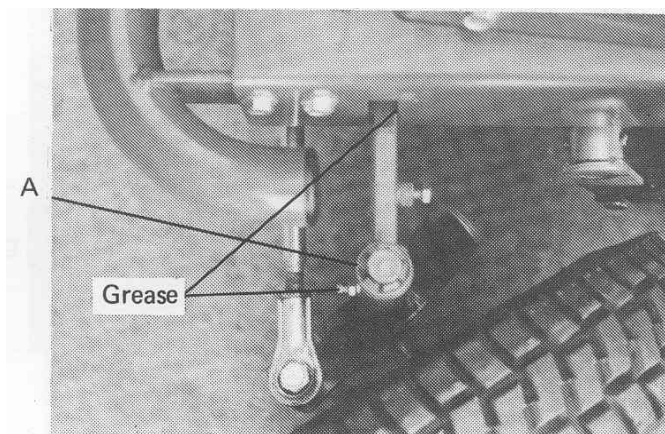

Fig. 11
- Grease nipples on front wheel pivots. See Fig.11
- Tie rod ball ends; Fig.11